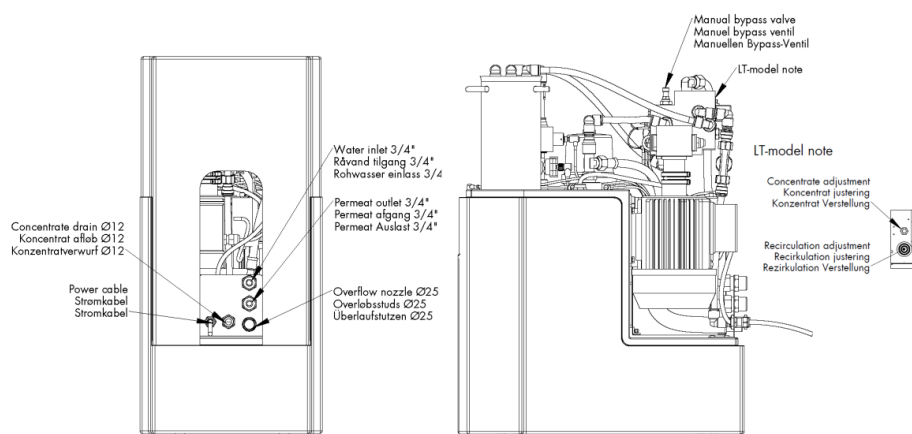

Figure 1: Water connection fittings and valves on BWT bestaqua 60-62
1. Examine Figure 1 and locate water connection fittings on your BWT bestaqua 60
Note! Only for BWT bestaqua 60 **LT**: Open concentrate valve completely and close recirculation valve (Figure 1). Run "RO UNIT START-UP". After 30 minutes' rinse the RO unit will automatically start to produce permeate if there is consumption. But the technician has to adjust flowrate on concentrate- and recirculation valves (Figure 1) according to the specific RO unit model. Use flowmeter from 451409006 "RO commissioning box" to adjust flowrates.
Note! Only for BWT bestaqua 60 **HQ**: After 30 minutes' rinse the RO unit will automatically start to produce permeate if there is consumption. Only flow of permeate (Figure 1, recirculation valve) has to be adjusted according to the specific RO unit model.